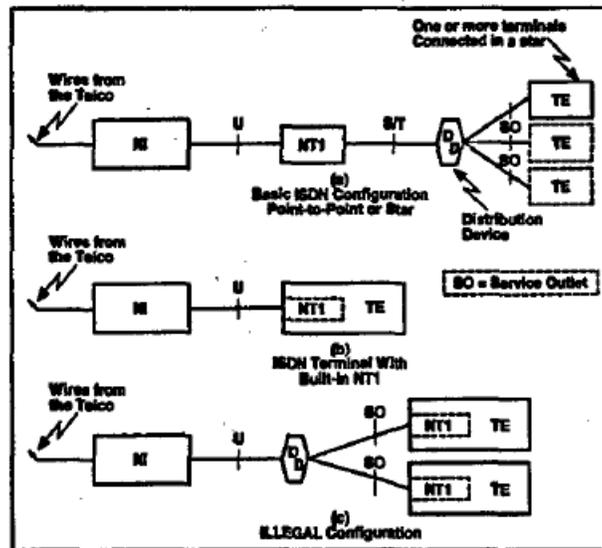

Figure 2.4
With normal telephone service (POTS), nothing really changes between the NI and the terminal equipment (i.e., the telephone set) - the same electrical signals that arrive at the NI from the telephone company central office continue on to the telephone set over two wires. However, with ISDN, an additional component is required between the NI and the ISDN terminal equipment (see Section 2.2.6.5). That additional component is called a **Network Termination 1 (NT1)**. The NT1 is described in more detail in Section 2.2.6.2. Figure 2.4 shows a simplified layout of the items mentioned below. For simplicity, no power arrangements are shown in this section - they are covered in Section 3.
As shown in Figure 2.4(a) or 2.4(b), the U interface is simply any point along the pair of wires from the telephone office after they have passed through the NI and before they get to the NT1. Thus, the term U interface does not refer to a specific connection point like the NI, but rather represents certain electrical characteristics, defined by the ISDN technical standards, that occur on a 2-wire transmission path.
- The NT1 may be a standalone piece of equipment (Figure 2.4(a)) or it may be built into an item of terminal equipment such as an ISDN telephone (Figure 2.4(b)). An ISDN terminal with a built-in NT1 is sometimes called a U interface terminal.
- There can be only one NT1 connected to a U interface. Thus, if multiple terminals are to be serviced by one ISDN line, they must be served by a single NT1 as shown in Figure 2.4(a) (but see note below). **Multiple U interface terminals (i.e., with built-in NT1s) are not acceptable (Figure 2.4(c)).**
NOTE: There are ISDN terminals that have a built-in NT1 and a jack that allows adding another terminal that does not have a built-in NT1. Thus, a standalone NT1 as shown in Figure 2.4(a) is not the only possible option when multiple terminals are involved.
For purposes of this discussion, the basic function of the NT1 is to convert the ISDN electrical signals that travel from the telephone office to the NT1 over the equivalent of one pair of wires (i.e., 2 signal leads) into an electrical configuration that uses 2 pairs of wires (i.e., 4 signal leads) as required by the ISDN customer terminal equipment. The wiring that runs between the NT1 and the terminal equipment is called the S/T interface as shown in Figure 2.4. Just as with the U interface, the term S/T interface does not refer to a specific connection point but rather represents specific electrical characteristics. Also, recall that in some applications the NT1 may be included in the terminal equipment (TE) so there is no exposed S/T interface. Unlike with the U interface, multiple terminal equipment devices can be connected to the S/T interface.